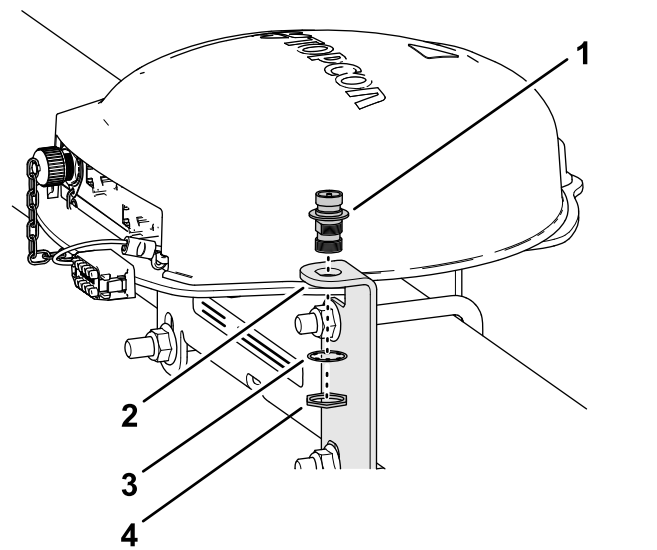

Figure 147
- Align the coaxial coupler through the opening in RTK-antenna bracket with the bulkhead threads of the coupler down (Figure 147).
- Assemble the coaxial coupler to the antenna bracket with the lock washer and jam nut, and tighten the jam nut by hand (Figure 147).